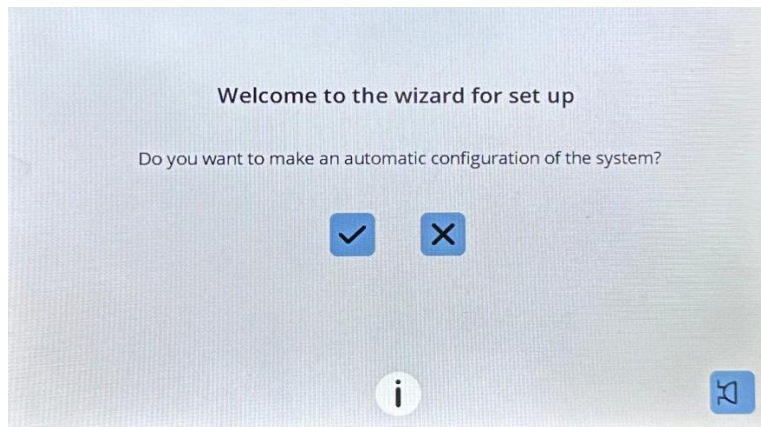

Figure 45 Welcome wizard
5. Click **Start** to start the download. The progress bar will indicate for each control unit the download progress as shown in Figure 45 below.